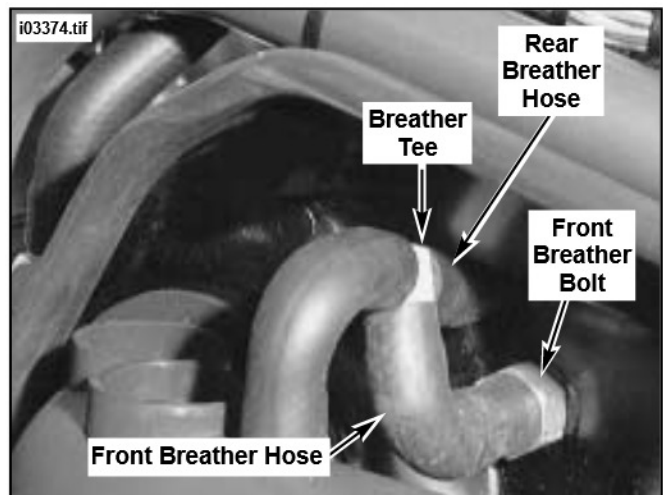

Figure 14. Install Breather Hoses
36. See Figure 14. Install breather hoses by performing the following: